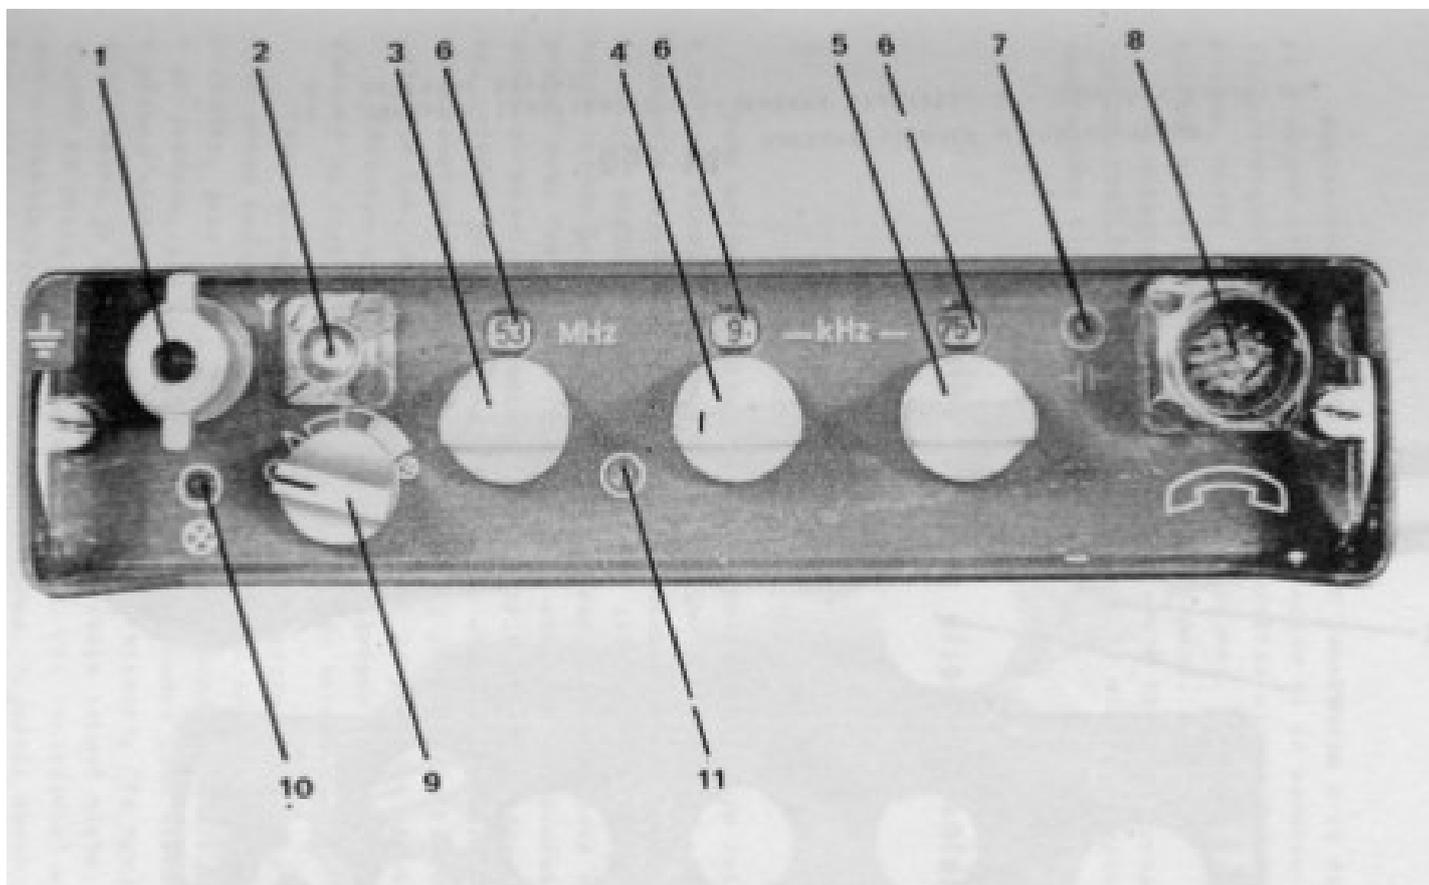
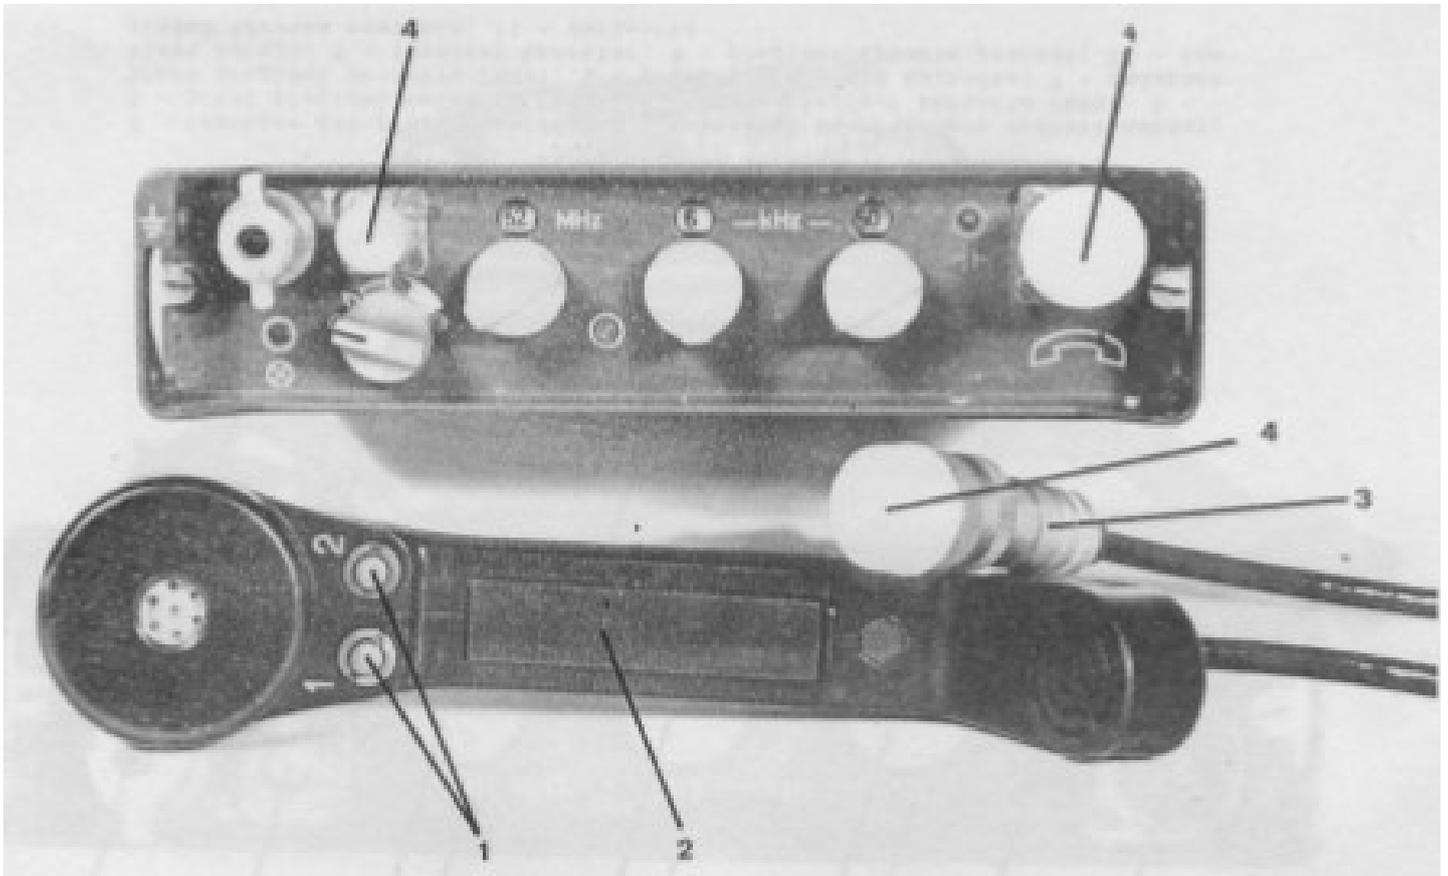
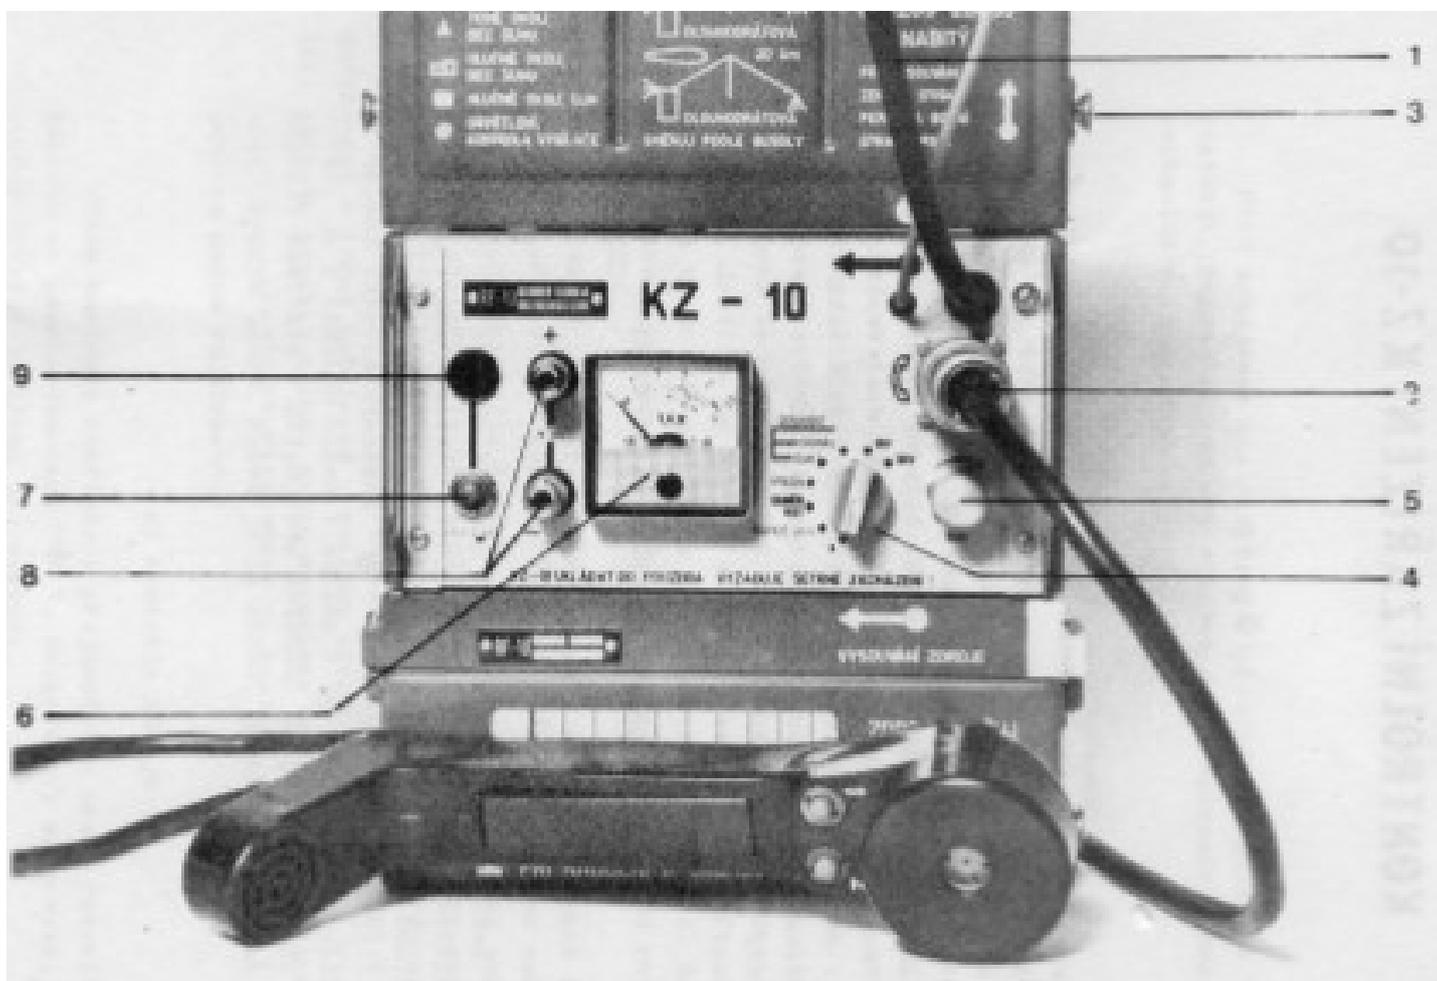

Figure 13: Radio set panel
Figure 14: Radio set and handset
Figure 23: Control device KZ-10
The radio set control panel is shown in Figure 13.
To connect the handset (fig.14), connect the 19-pin connector (Figure 14, item 3), first removing the cover (item 4) to the connector on the radio set panel (Figure 13, item 6). The handset connector has a key that ensures proper orientation. After insertion, push the locking ring onto the radio set connector and tighten. The includes the PTT switch (position 2). The two buttons (position 1) are used to generate tone signals. The functions of both these buttons are the same.
This antenna is the basic type of antenna used by the set. It connects to the radio set by inserting it into the antenna connector on the radio set panel and securing with the wing lock (Figure 13, position 1). When using the radio set in moderately wooded and medium terrain a range of up to 5 km can be expected. The operating position of the radio set is "on the chest" or "on the back" (see Figures 3 to 10), which is fixed to the operator's body as far as possible. It is necessary to observe the vertical position of the antenna. The rod antenna, in particular if used obliquely, does not radiate equally in all directions due to the operator's body. It is advisable for the operator to position themselves so that the end of the antenna is facing towards the opposite station (if possible).
(See Figure 13 – position 9) Turn the mode switch to the test position marked "⊕", the connected circuit and the AC inverters are switched. The lamp flashes on the radio set panel signal to indicate that the radio is turned on. There the frequency indicators should glow. However, the red low battery light must not be lit. There should be noise in the handset. If there is no noise, the radio set should be tuned to a free channel. It is necessary not to set any of the frequencies listed in the problem channel table (pg. 7). If the noise in the handset does not appear in this case, the radio set needs be repaired. The noise in the handset disappears by switching the mode switch to one of the other positions.
The mode switch remains in the position labelled "⊕". The antenna is disconnected from the radio set. The PTT button is pressed on the handset (Figure 14). The green bulb marked "⊕" (Figure 13) lights up on the radio set control panel. If this bulb does not light up, there is a fault in the radio set and it needs to be repaired. When performing a check with a connected antenna, the procedure is the same, but the bulb is lit by a lesser brightness. If possible, it is advisable to make contact to another local station.
Unplug the battery pack from the radio set. Connect the control device to the radio set in place of the battery pack. Attach the battery pack to the control unit. The method of connection is the same as connecting the battery pack to the radio set. Connect the cable with the 19-pin connector to the connector to the 19-pin connector on the radio set control panel (Figure 18, position 8) instead of the handset. Then connect the handset to the control unit 19-pin connector (2) of the control unit. A coaxial cable with connector (3) is connected to the wire antenna connector of the radio set (Figure 13, position 2). The complete assembly is shown in Figure 23.
The radio set is switched to one of the "Δ", "◻", "□", "■" modes, the control device switch (4) in the "RF POWER" position. Press the PTT key to switch to radio transmit. The needle of the meter (6) points to the green field i.e. a power greater than 0.5 W marked by a scale at the beginning of the green field. This check is only correct if the check under paragraph (a) has been met. It is sufficient to connect the connector (3) to the coaxial connector on the radio set panel (position 2 – fig.13). The control device can therefore be used to measure the performance of the radio set separately.
After preparing, checking the radio set, after the antenna is connected, the radio set can be tuned to the specified frequency. The tuning is done by setting the three switches in the central part of the control panel of the radio set (see Figures 13 and 14).